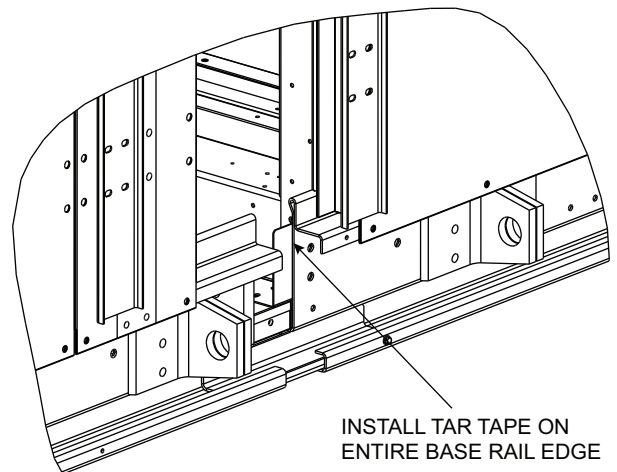

Fig. 38 — Tar Tape Location
9. Install tar tape on edge of main unit base rails to seal base rail splice. See Fig. 38.